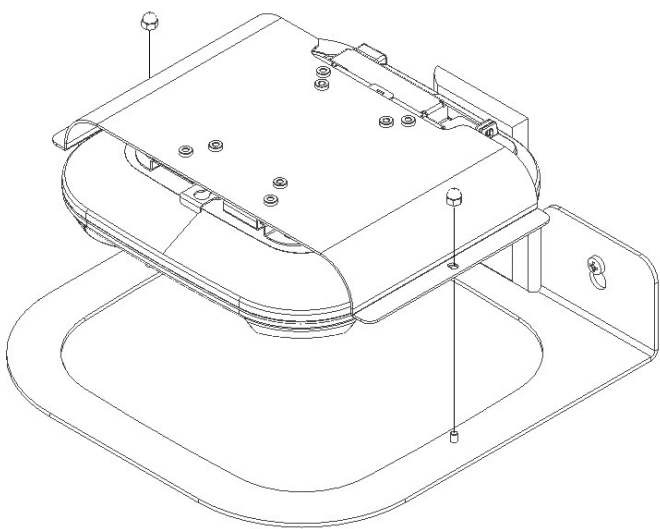

Figure 4
Step 8 – Align the *Oberon access point mounting bracket/Cisco access point assembly* so that the Ethernet cable is facing the wall. Attach the *access point assembly* to the *Oberon right angle wall mount* that was previously installed by placing the holes on the *access point assembly* over the threaded studs of the *Oberon right angle wall mount* (Ref. figure 4).
Step 9 – Secure the *access point assembly* to the *Oberon right angle wall mount* using two (2) acorn nuts.